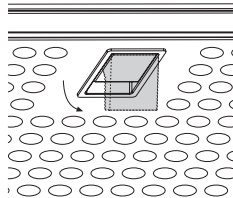

Fig. 3
- Pull the handle downwards, then remove the filter. **Fig. 3.**